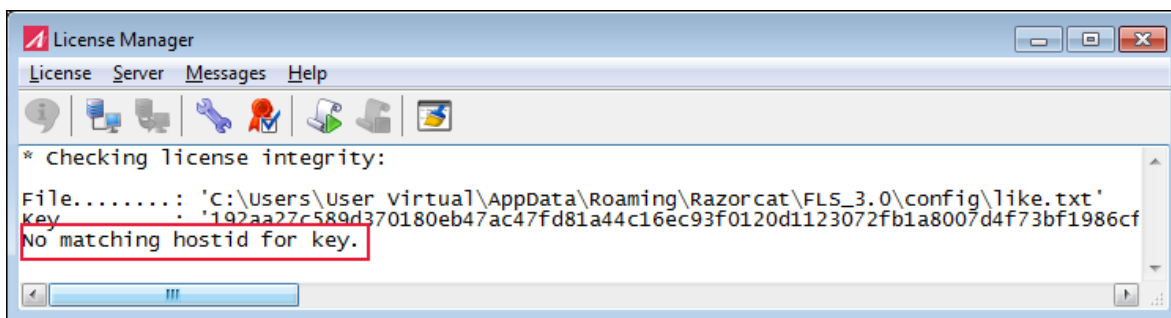

Figure 7.8: License key check unsuccessful: license key is incorrect for the host id
- Check the error message (see figure 7.8).